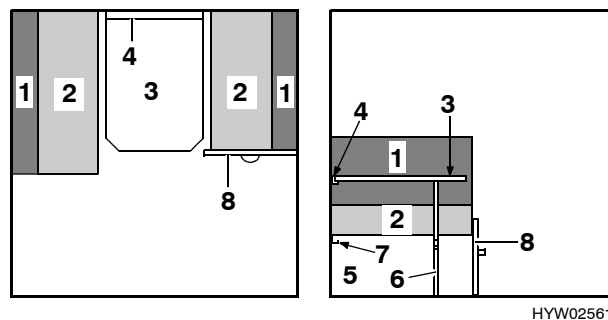

Fig. 31 Fixed bed (variant 2)
- Lift the slatted frame to the desired height and allow both hinges (Fig. 31,1) to engage in the same position.
- Lift the slatted frame as far as possible. The hinges release (Fig. 31,1) in a downwards direction.